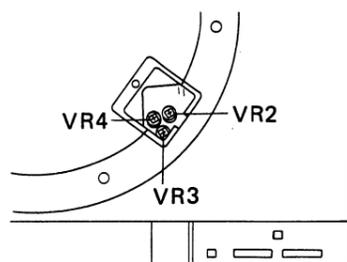

Fig. 11-1 Tracking sensor zero adjustment
2. Then move arm elevation up and down several times and return it to the up position. Check that the voltage across TP1 - TP2 does not exceed $\pm 2V$ (Fig. 11-1).
2. Keep the locate-in button (\blacktriangleleft) depressed at the 1st level, and adjust VR4 so that the stylus tip moves at a rate of 50mm in 7.1 ± 0.7 seconds (Fig. 11-1).
3. In the same way, keep the locate-out button (\blacktriangleright) depressed at the 1st level, and adjust VR3 to again obtain at stylus tip movement of 50mm in 7.1 ± 0.7 seconds (Fig. 11-1).